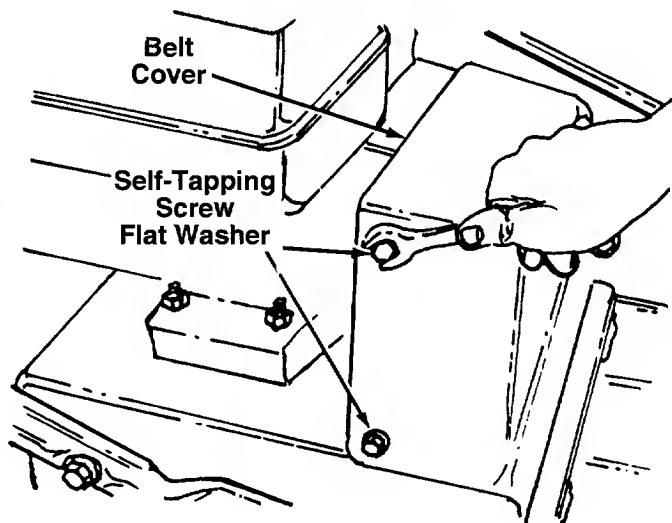

FIGURE 29.
2. Remove the plastic belt cover on the front of the engine by removing the three self-tapping screws and flat washers. See figure 29.